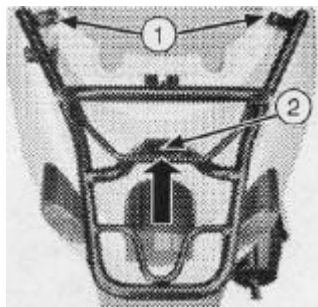

Fig. 28
### **LUGGAGE RACK (FIG. 28) -OPTIONAL EXTRA**
1. Make holes in the rear fairing in the premarked point (2 -FIG. 28).
2. Use the screws supplied to fasten the rack to the rear fairing (1-2-FIG. 28).